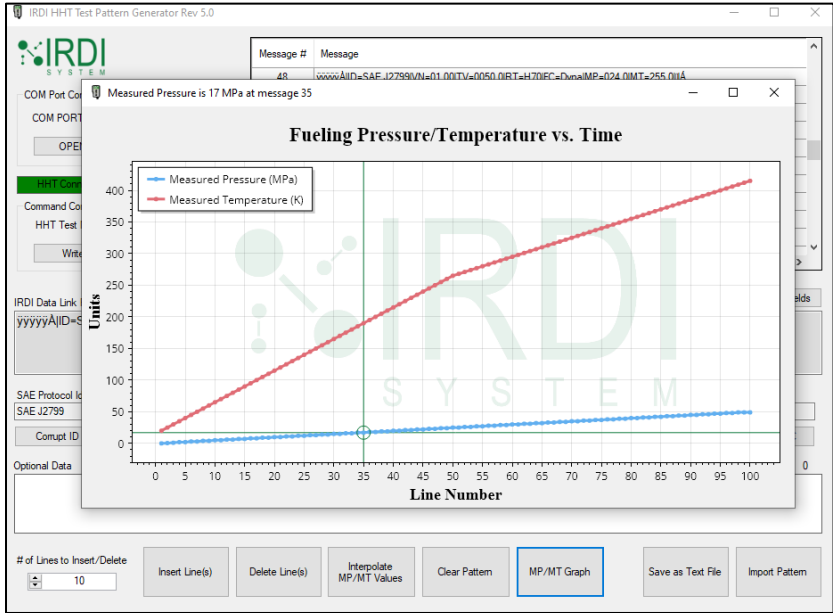

FIGURE 6-50 HHT TEST PATTERN GENERATOR SOFTWARE –MP/MT GRAPH SCREEN
STEP 3	A popup graph screen will appear – see Figure 6-50.